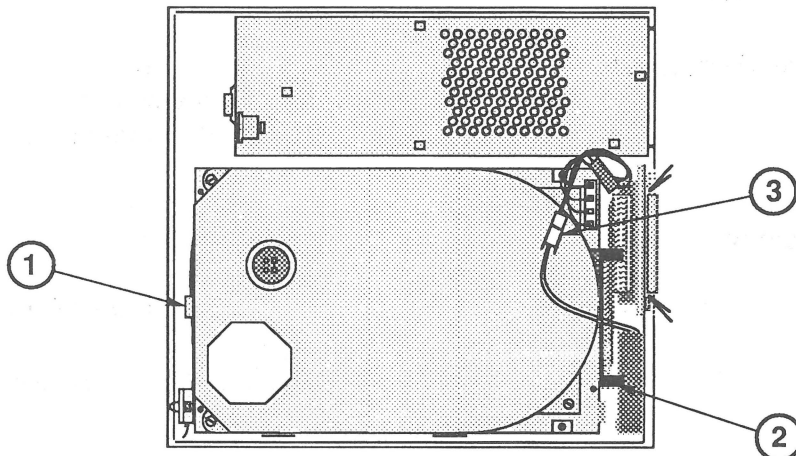

FIGURE 20
4. Connect the fan cable (Figure 20, #3). It fits only one way.
5. Connect the HDA-to-case cable (Figure 20, #2) to the hard disk and close the end tabs, if present.
6. Slide the hard disk assembly back into position, push back the holding tab (Figure 20, #1), and carefully settle the hard disk into place.